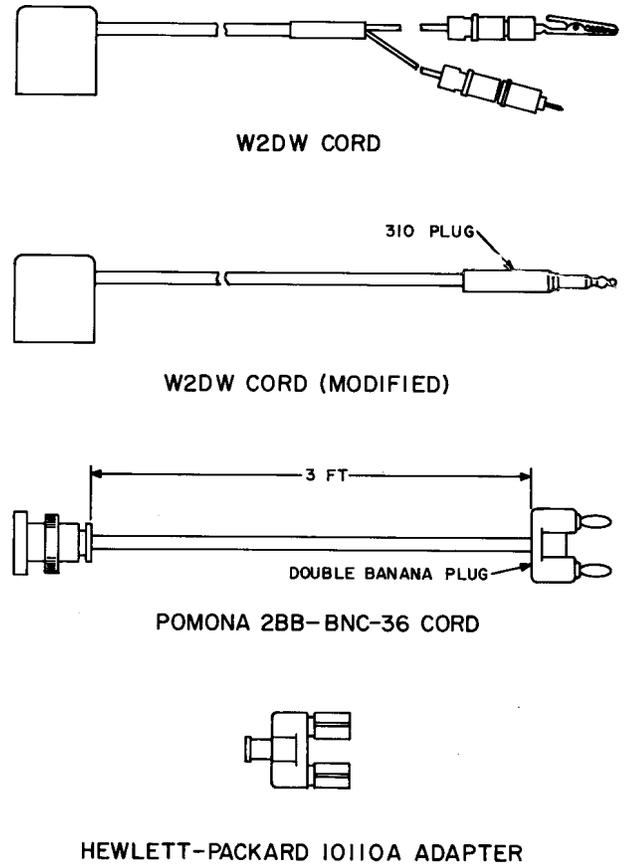

Fig. 8—Miscellaneous Cords and Adapters Used for Phase Lock Test
- 1—W2DW Cord (modified per Fig. 8)